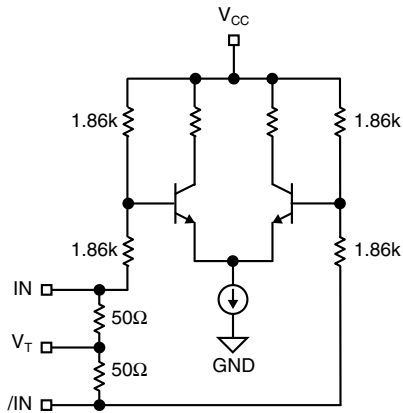

Figure 2a. Simplified Differential Input Buffer
- Note 3.** Due to the internal termination (see Figure 2a) the input current depends on the applied voltages at I_N , I_{IN} and V_T inputs. Do not apply a combination of voltages that causes the input current to exceed the maximum limit!
Note 3. Measured as per Figure 2a, 100 Ω across Q and /Q outputs.